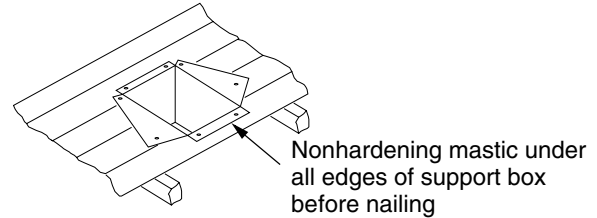

Figure 34 - Installed Cathedral Ceiling Support Box
- Using tin snips, cut the support box from the top corners down to the roofline and fold the resulting flaps over the roof sheathing (see Figure 34). Apply a bead of nonhardening mastic around the top edges of the support box to make a seal between the box and the roof. Nail in place with roofing nails. Remove any combustible material that might be inside of the support box.